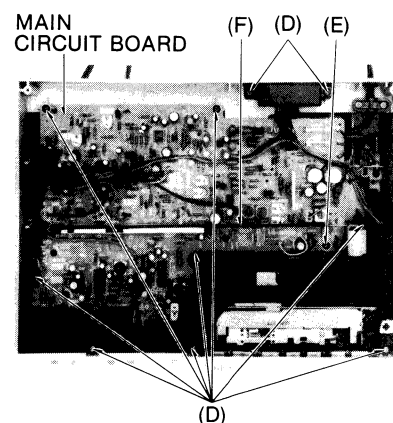

Fig. 3
<p>A Head position adjustment</p> <p>Condition:</p> <ul style="list-style-type: none"> • Playback and pause mode 	<p>(The head adjusting plate is provided to adjust the tape touch of the head in cue or review mode.)</p> <ol style="list-style-type: none"> 1 Press the playback button and pause button 2 Measure the space between the pressure roller and the capstan. <div style="border: 1px solid black; padding: 5px; width: fit-content; margin: 10px auto;"> Standard value: $0.5 \pm 0.3\text{ mm}$ </div> <ol style="list-style-type: none"> 3 If the measured value is not within the standard value, untighten screw (A), and slide the head adjusting plate in the direction of arrow (B) for adjustment  <p style="text-align: center;">Fig. 3</p>